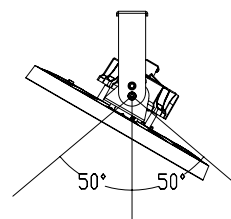

Figure 5
3. Adjust the Angle: The fixture can be tilted up to 50° to the left or right for vertical adjustment. (See Figure 5)